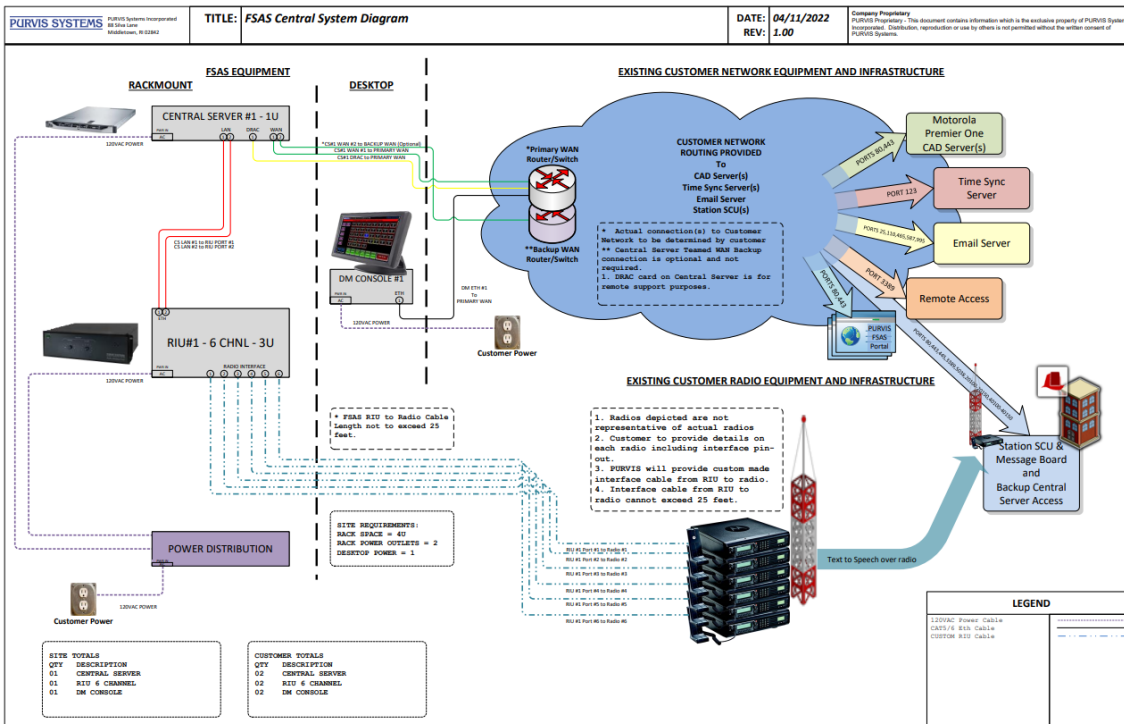

Figure 2 - FSAS Central Server with 3U 6 Channel RIU
- **Figure 2:** FSAS Central Server with 3U 6 Channel RIU